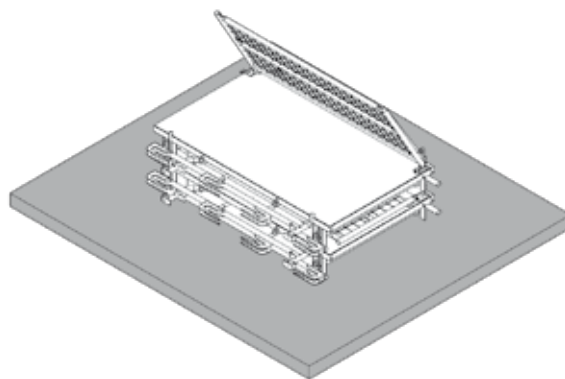

Fig. 18.1
1. Fold the railing up (Fig. 18.1).